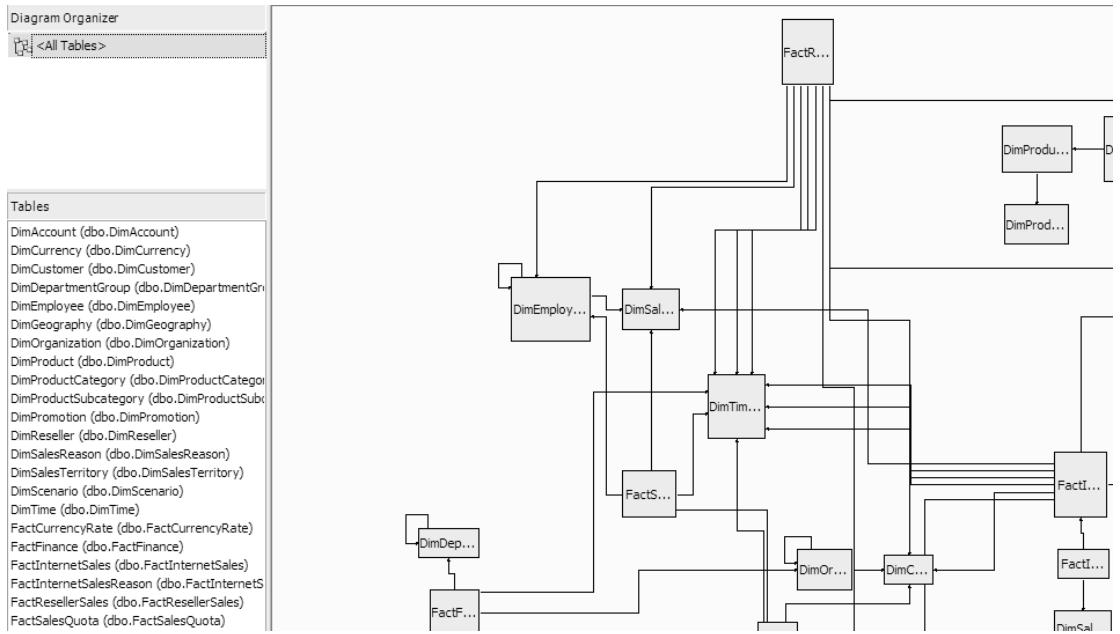

Figure 2.22 The SOS OLAP Data Source View consists of more than twenty tables.
5. In the Completing the Wizard step, name the new data source view **SOS OLAP** and click Finish to create it. The Data Source View designer is launched with the SOS OLAP data source view loaded (Figure 2.22).